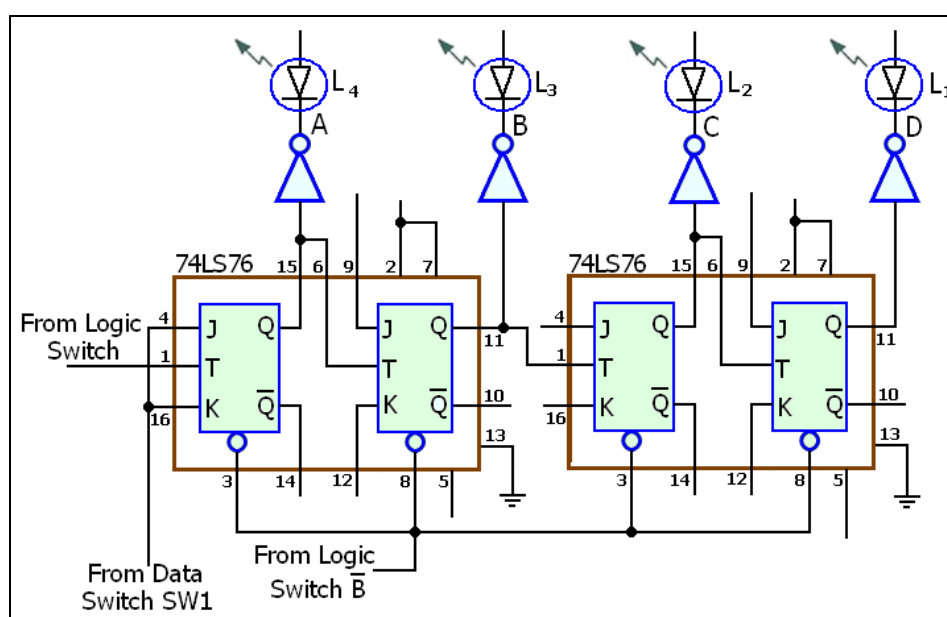

Fig. 1-3 Binary Counter for Steps 8, 9, and 10
8. Modify the counter to conform to the circuit in Fig. 1-3. Be careful in making your wiring changes to avoid errors. Study the counter circuit you have just wired. What kind of counter is it?